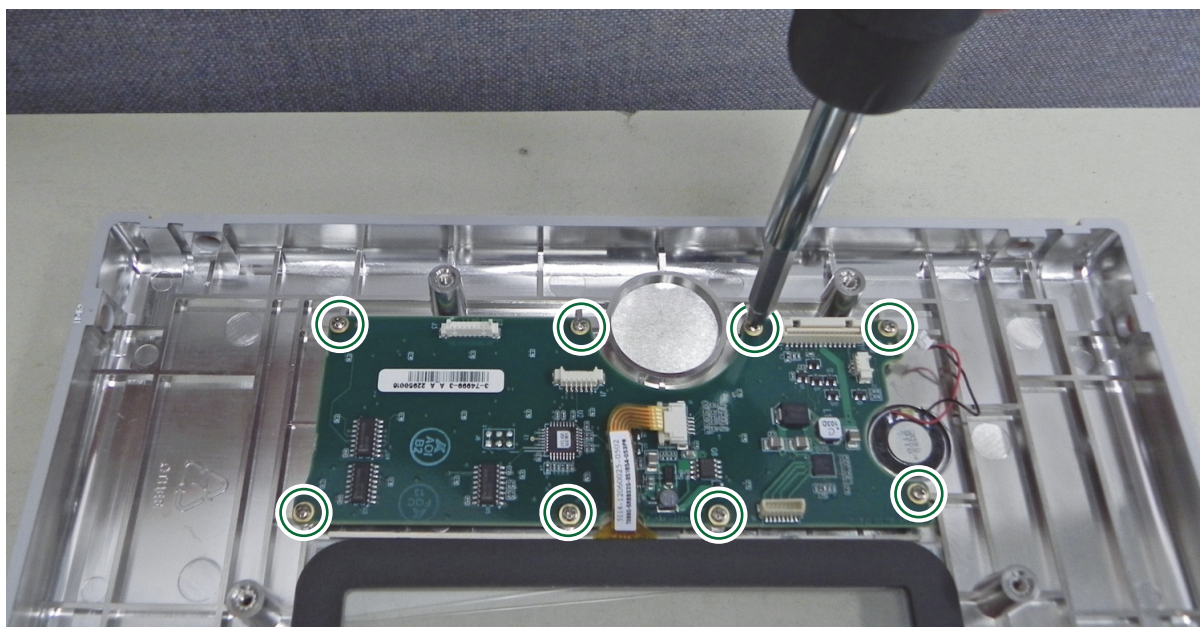

Figure 5-25. Remove Keypad PCB Screws
- Carefully disconnect the speaker connector and remove the 8 screws holding the keypad PCB to the front panel assembly (Figure 5-25).